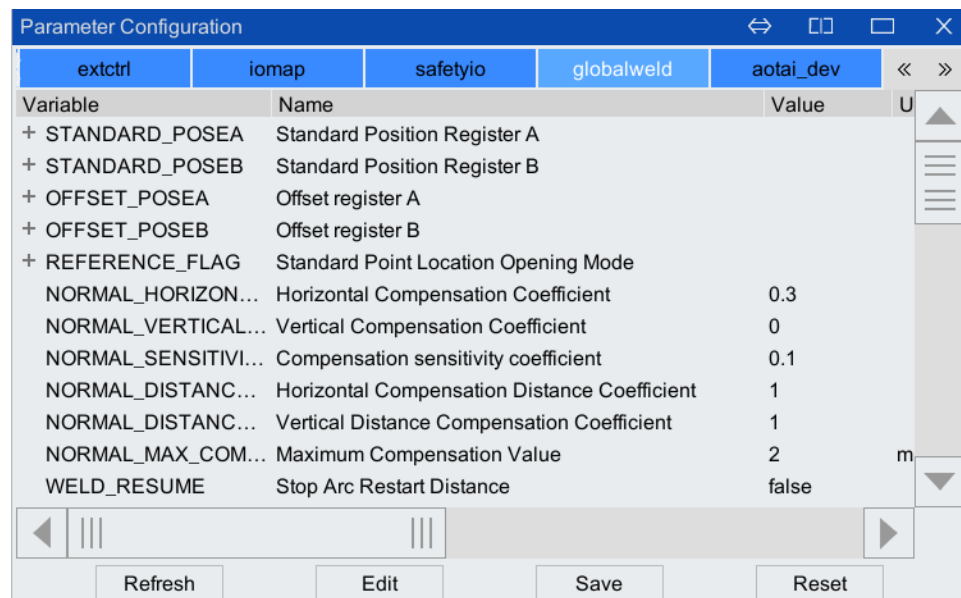

Figure 6-15 Arc Welding Database Page
Step2. In the pop-up [Parameter Configuration] interface, click the [globalweld] tab. As shown in Figure 6-15.